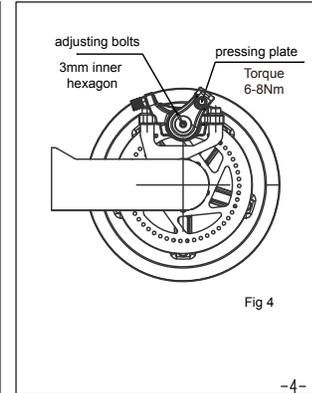

Fig 4
- B gap: When B gap is too large, the connection screws have to be loosened (see Fig. 4). A 3 mm Allenkey is used to slowly turn the adjustment bolt in a clockwise direction (Fig. 3), until the clearance between rotor and brake pad is 0.2-0.4 mm for each side. Then repeat the caliper installation steps mentioned in Step 2.